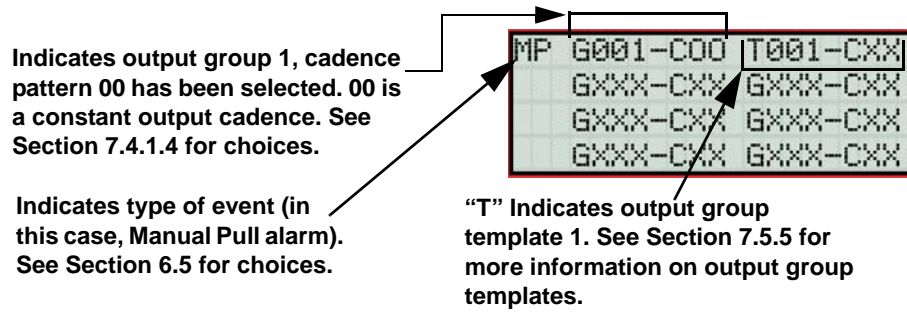

Figure 7-3 Selecting Output Groups/templates and Cadence Patterns for a Zone Event
6. From the next screen, a list of 8 event types will display. Select the event type you want to program. A screen similar to the one shown in Figure 7-3 will display.
8. Select options for each event that could occur in this zone. Figure 7-3 is a complete example of how you might map a zone.